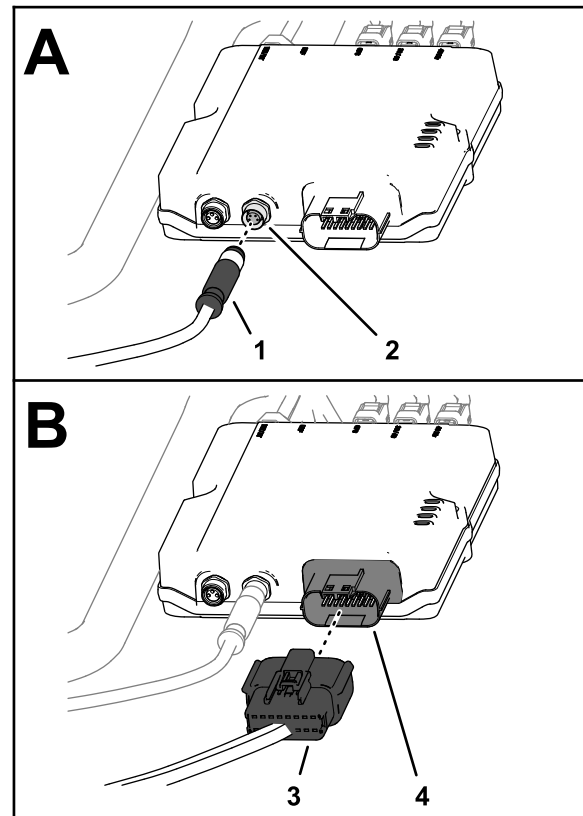

Figure 165
1. Plug the 4-pin connector of the modem data harness labeled ETHERNET CL55 into the 4-socket connector (unmarked) of the CL-55 modem, and tighten the knurled nut of the 4-pin connector (Figure 165).
2. Plug the 18-socket connector of the modem power harness labeled CL55 into the 18-pin connector of the CL-55 modem (Figure 165).